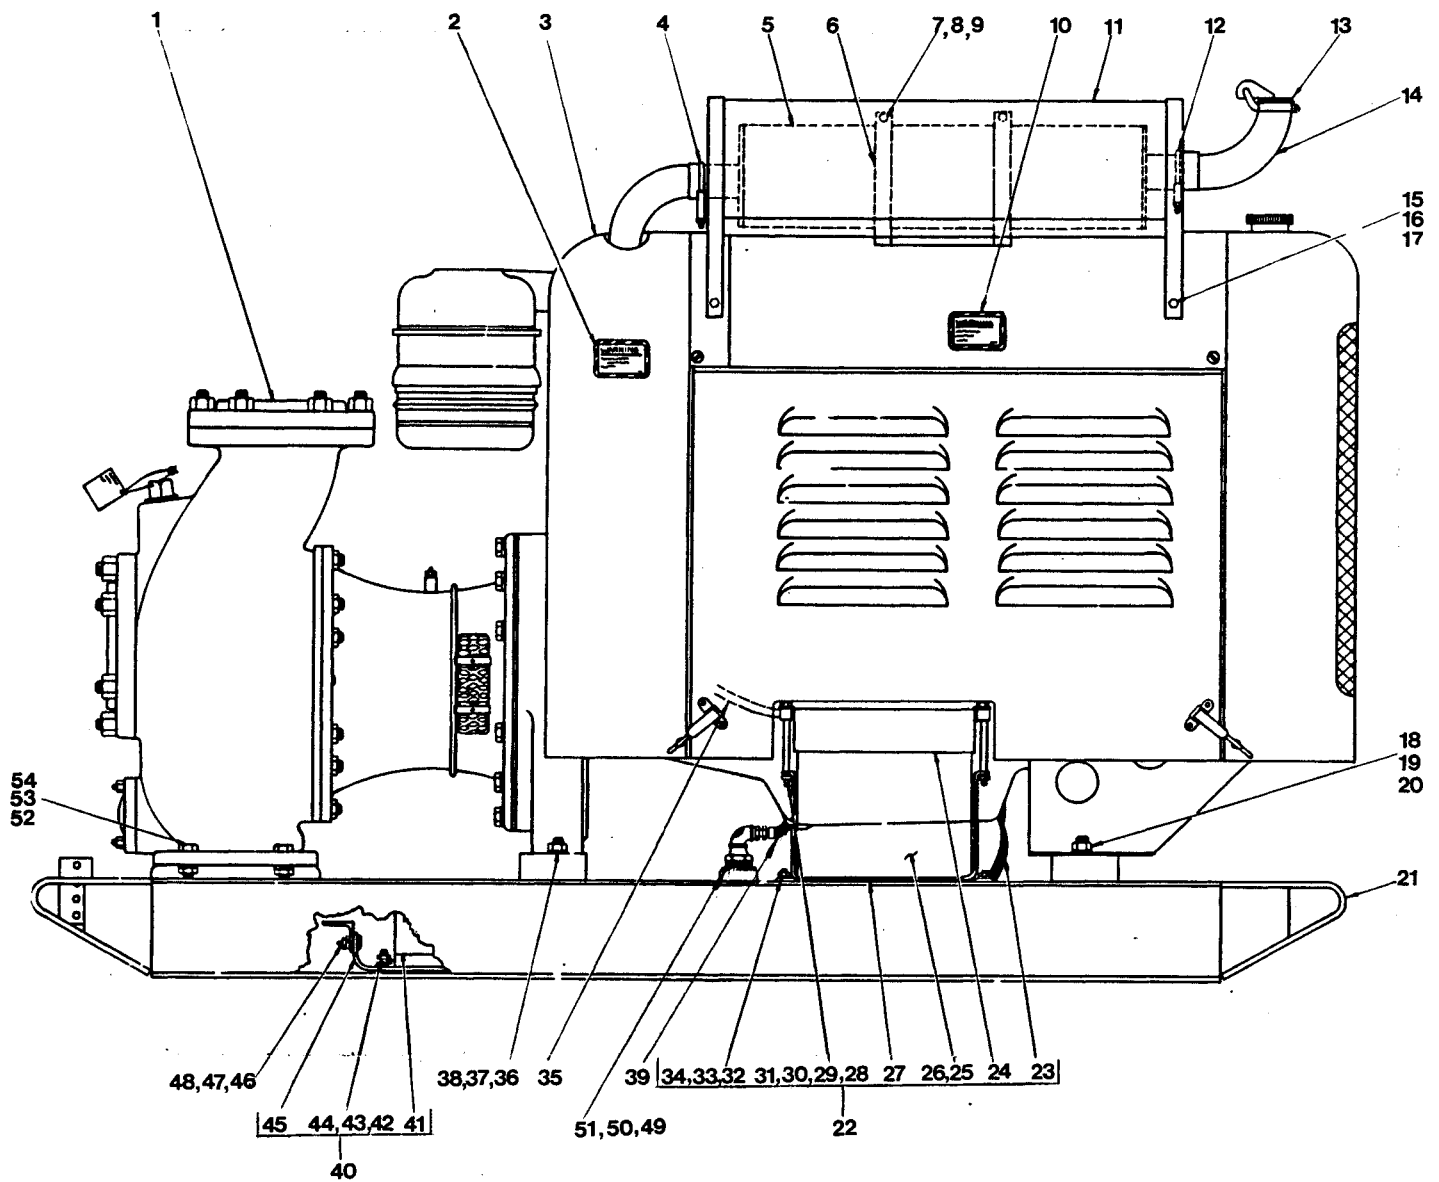

Figure 1. Pump Model 06B3-F300
This pump requires little service due to its rugged, minimum-maintenance design. However, if it becomes necessary to inspect or replace the wearing parts, follow these instructions, which are keyed to the sectional views (see Figures 1 and 2) and the accompanying parts lists.
Remove the suction and discharge lines. Remove the hardware (52, 53 and 54, Figure 1) securing the casing to the base. Remove the nuts (30), and use a suitable hoist and sling to separate the pump casing and gasket (32) from the seal plate (31) and intermediate (27).